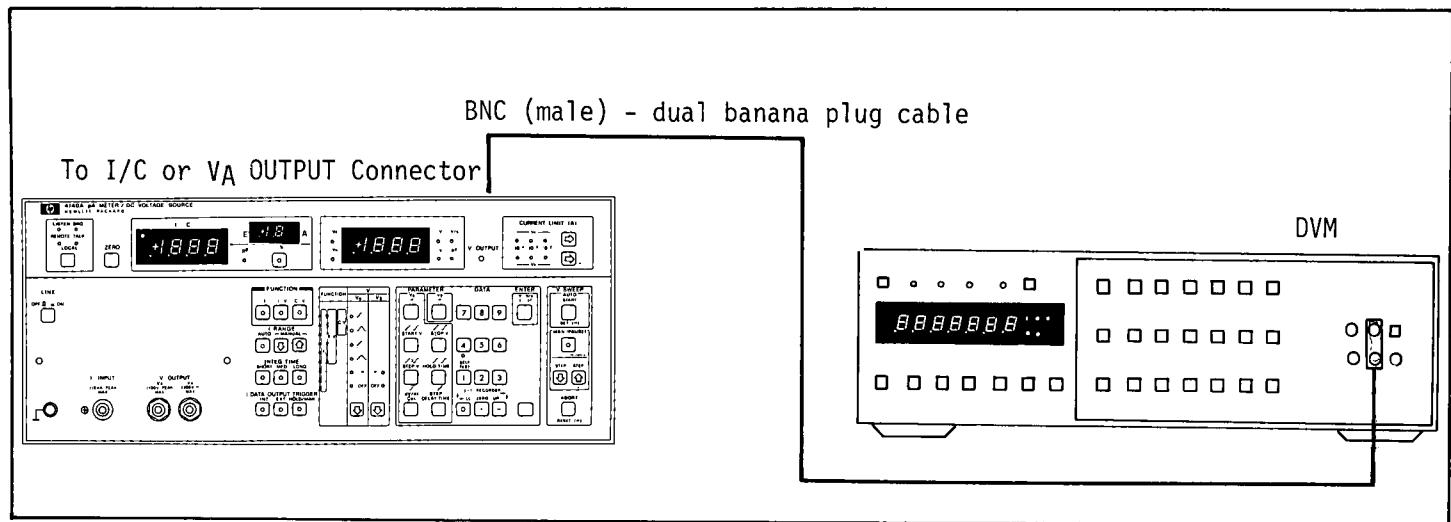

Figure 4-8. Analog Output Accuracy Test Setup.
1. Connect BNC (male) - dual banana plug cable between the 4140A Option 001 VA Output connector on rear panel and the DVM (see Figure 4-8).